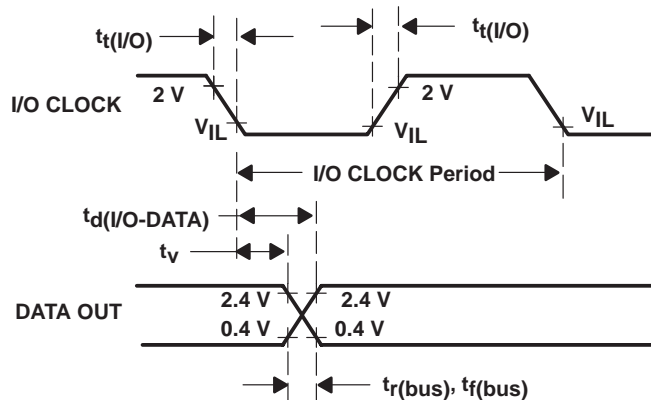

Figure 6. DATA OUT and I/O CLOCK Voltage Waveforms
- I/O CLOCK period = $1/(I/O\text{ CLOCK frequency})$ (see Figure 6).